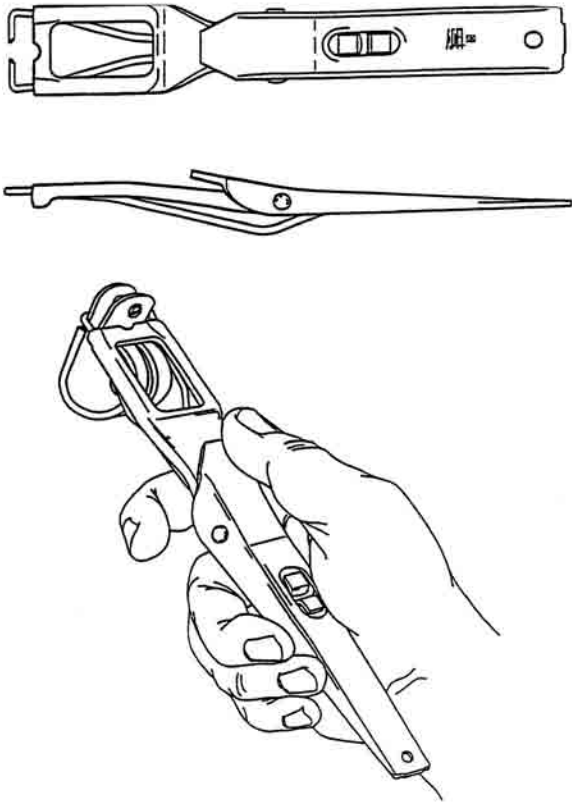

Figure 37. ADEL 560
52. ADEL560 ASSEMBLY TOOL. The ADEL560 clamp assembly tool simultaneously closes and holds the clamp in position while both hands are free to secure the harness in place. After clip is bolted in place, the tool is easily removed by depressing handle until prongs clear (Figure 37).